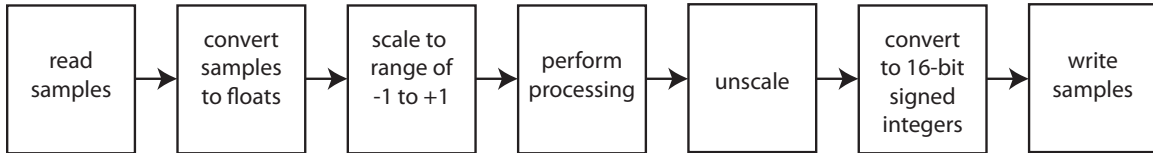

Figure 1: Typical steps when processing samples from the AIC23 codec
1. Squaring the samples on the left input channel is a little bit more complicated than simply multiplying the sample by itself because you are likely to get overflow in the 16-bit signed integer datatype (with range -32768 to +32767) if you do this directly. Instead, consider the processing steps shown in Figure 1. By pre-scaling the samples (and converting to floats), the samples remain in the range  $[-1, +1]$  after squaring. Unscaling and conversion to signed integers is necessary before writing the modified samples to the AIC23 codec.